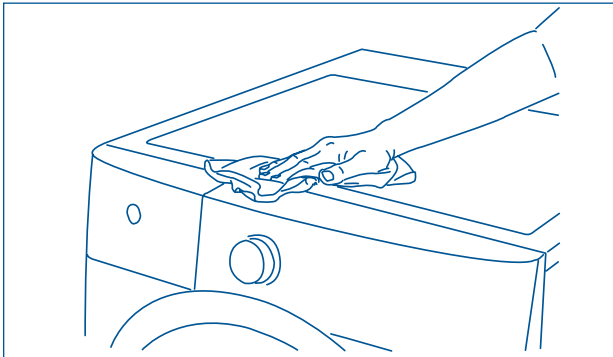

Figure 2-43.
1. Wipe front portion of top with isopropyl alcohol and a clean cloth. (See Figure 2-43)